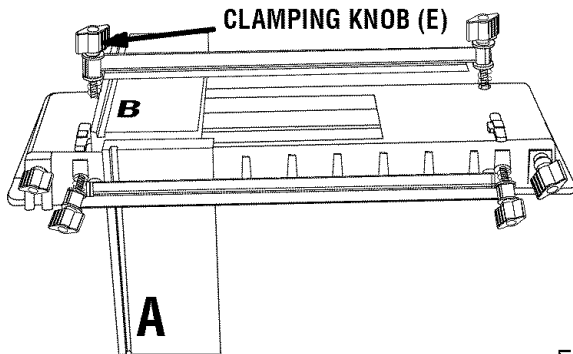

Fig. 32
- Insert board (A) between front clamping bar and front surface of dovetail base with bottom edge toward the left 2-way stop. Temporarily clamp board (A) “inside-out” to the left front of the fixture so that it extends above the base. See Figure 32. This is done to assist in the proper positioning of the board (B).
- Insert board (B) between top clamping bar and top surface of dovetail base, with bottom edge against left 3-way stop, and flush with extended portion of board (A). See Figure 32.